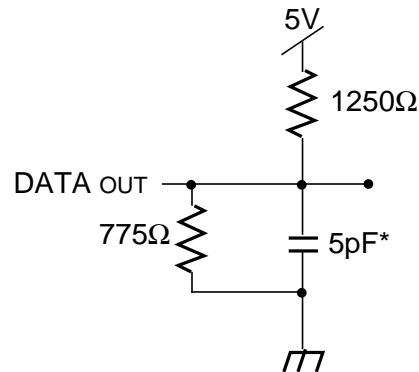

Figure 2. Output Test Load
1. Transition is measured ±500mV from Low or High-impedance voltage Output Test Load (Figure 2).
1. Transition is measured  $\pm 500mV$  from Low or High-impedance voltage with Output Test Load (Figure 2). This parameter is guaranteed by device characterization but is not production tested.